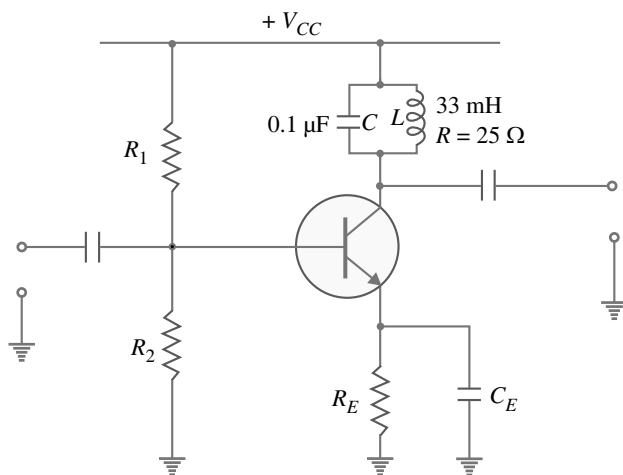

Fig. 13.14
**Example 13.12.** For the tuned amplifier shown in Fig. 13.14, determine (i) the resonant frequency (ii) the  $Q$  of tank circuit and (iii) bandwidth of the amplifier.